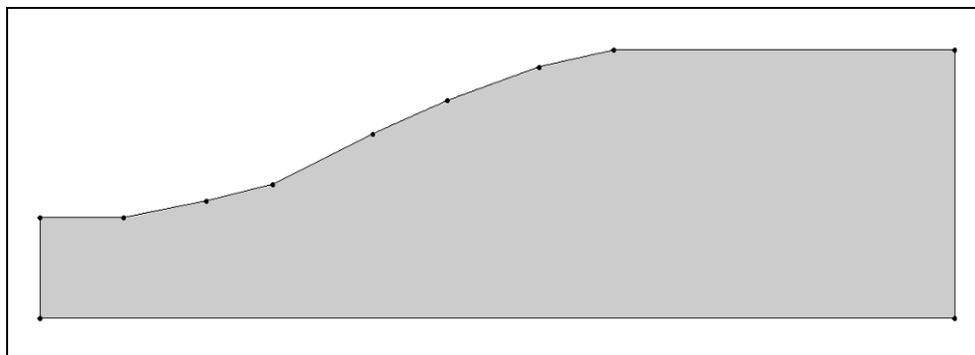

Figure 3. The Underwater Slope Before Excavation.
3. Using Figure 3 (below) as a guide, click on the points to connect them with arcs to create the slope. It doesn't matter what point you start at or which direction you go.
At this point you should see something like Figure 3 below.